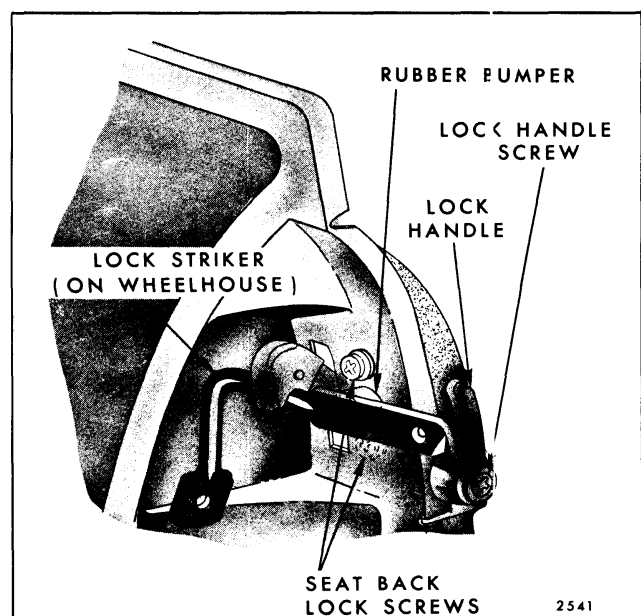

Fig. 9-82-Folding Second Seat Back Lock and Striker - All "A and B" Station Wagons
4. To install seat back lock assembly, reverse removal procedure. A small amount of lock adjustment is available to obtain proper engagement of lock bolt with lock striker on wheelhouse as shown in Figure 9-82.